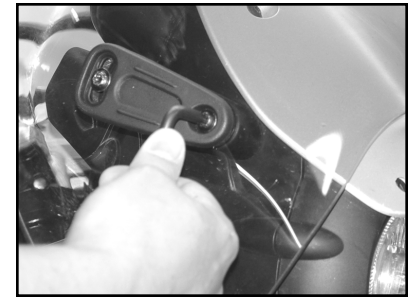

Figure 1
1. Remove the two torque screws holding the outside face plate from one side of the motorcycle. Repeat on the other side (T-30 Wrench). Screws will be re-used. **Figure 1.**